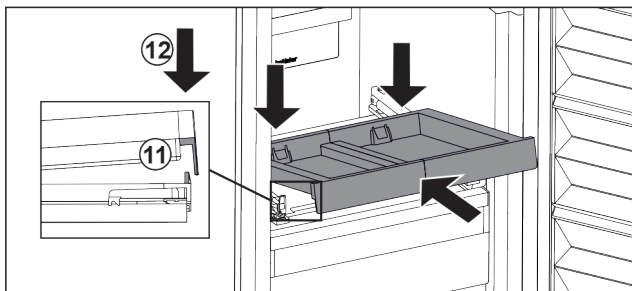

Fig. 27
- Slide it in at an angle. Make sure that the stop is behind the lug on both sides. Fig. 27 (11)
- Lower the pull-out board at the front. Fig. 27 (12)